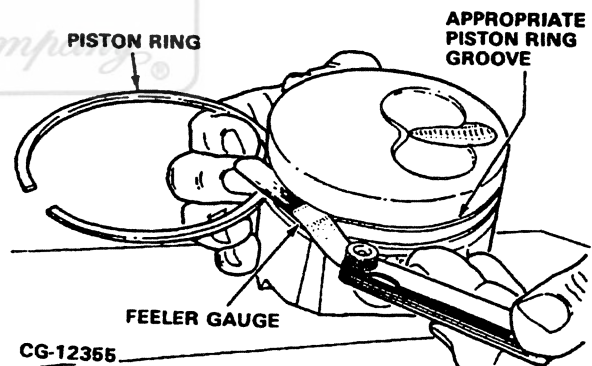

Figure 5.23. Checking Ring-to-Groove Side Clearance with Feeler Gauge
- a. Place the outer edge of the ring in the piston groove (Figure 5.23).
- c. With a feeler gauge (Figure 5.23) check the side clearance of each ring in its respective groove. (See **SPECIFICATIONS**).